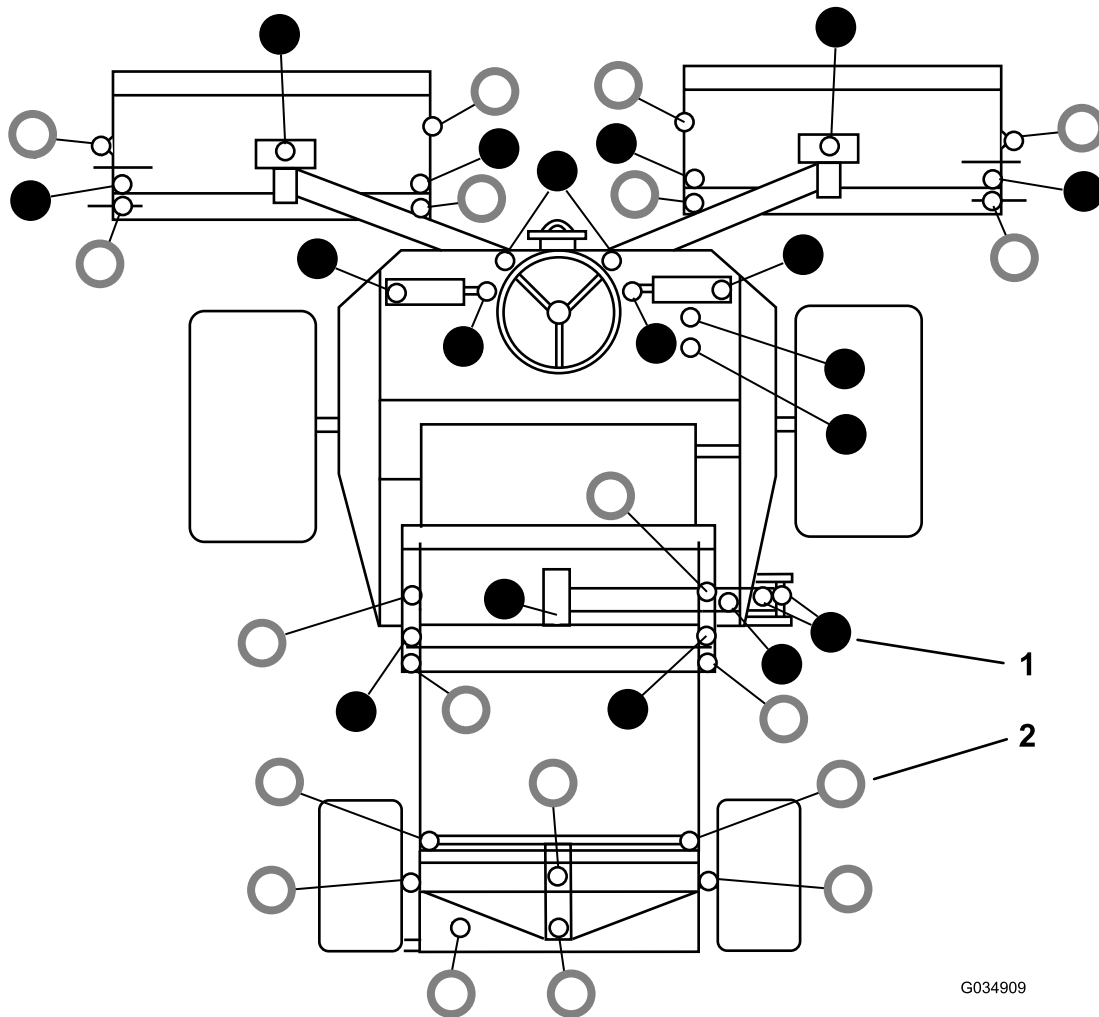

Figure 51
- Refer to Figure 51 for the grease fitting locations.